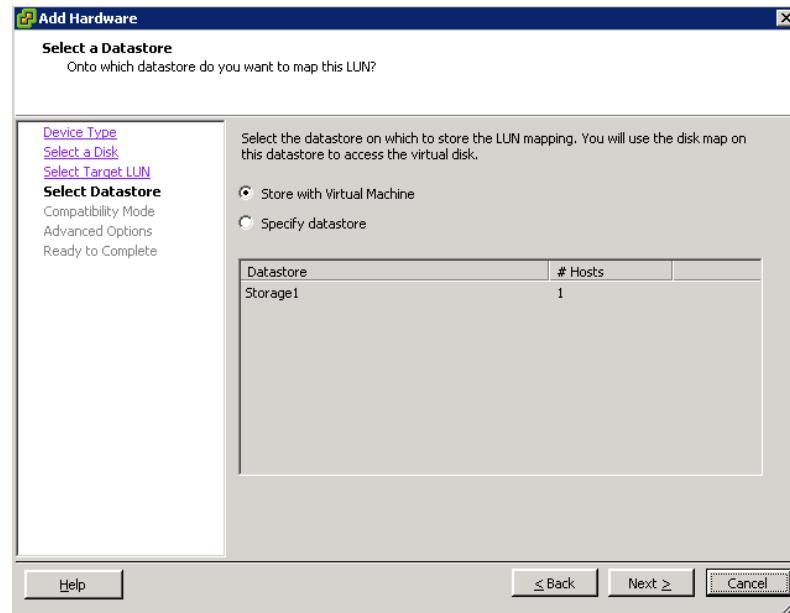

Figure 5-25. Add Hardware—Select Datastore
10. Select a datastore. In this example, accept the default, **Store with Virtual Machine**, and then click **Next** (Figure 5-25).